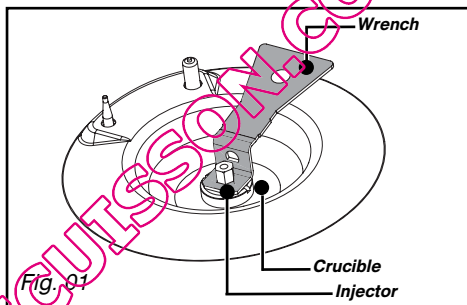

Fig. 01
– **Use a flexible metal hose** (stainless steel) with **screw-on mechanical connectors** (compliant with the NF D 36-125 standard) with an unlimited guarantee (Fig. 01).
- Using the tool provided, unscrew and remove the injectors located under each crucible (Fig. 01).